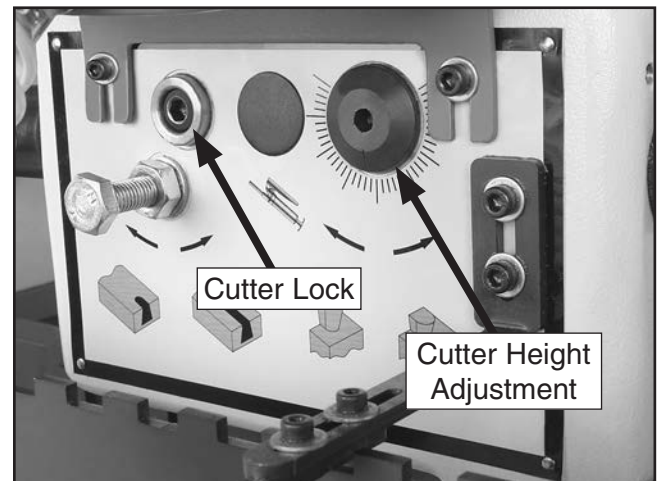

Figure 32. Cutter lock and adjustment height.
- Use a 6mm hex wrench to loosen the cutterhead lock shown in **Figure 32**.